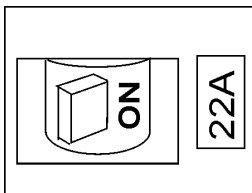

Figure 18. Main Circuit Breaker (ON)
- Place the main circuit breaker (Figure 18) in the **ON** position.